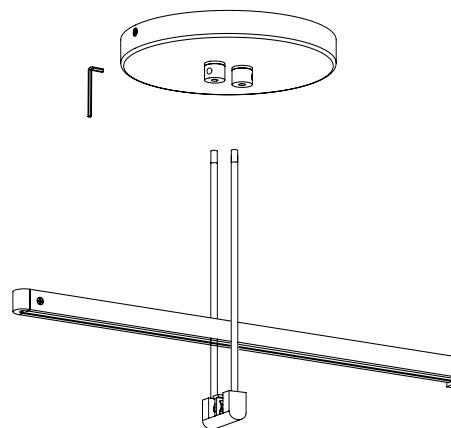

Fig. 2
1. Install the **Double Cord (or Rod) Power Feed Hanger** onto the **Power Bar**: press down firmly on the top of the Power Bar, while pressing up on the bottom of the Hanger, until the Power Bar clicks into place (Fig. 2).